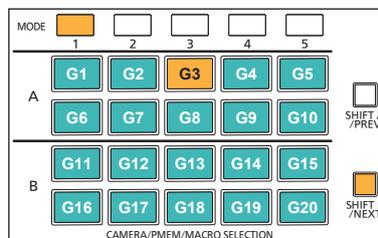

Figure 2
2. Select the G3 camera group with the [G3] button, and when you release the [SHIFT B/NEXT] button, the camera group is selected. (Figure 2)